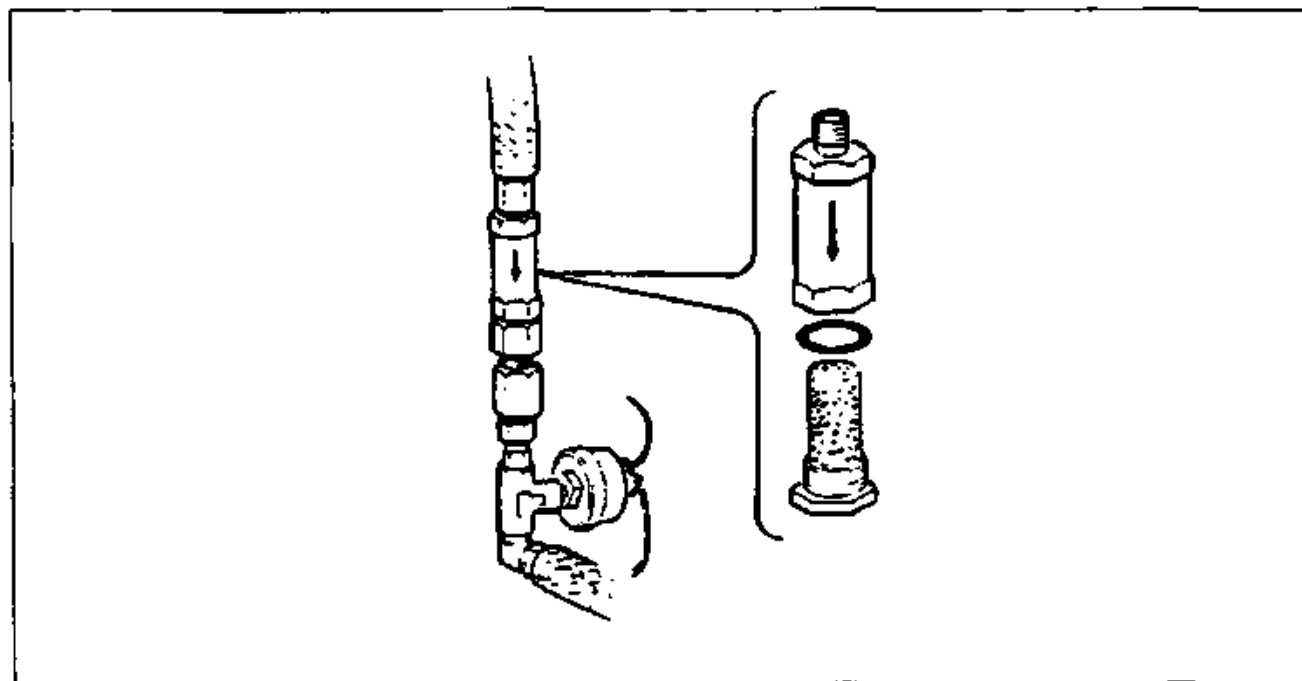

Figure 2-19. Turbo Oil Filter
- Remove the oil filter, located on the lower right side of the firewall, from line and disassemble unit. (Refer to Figure 2-19.)